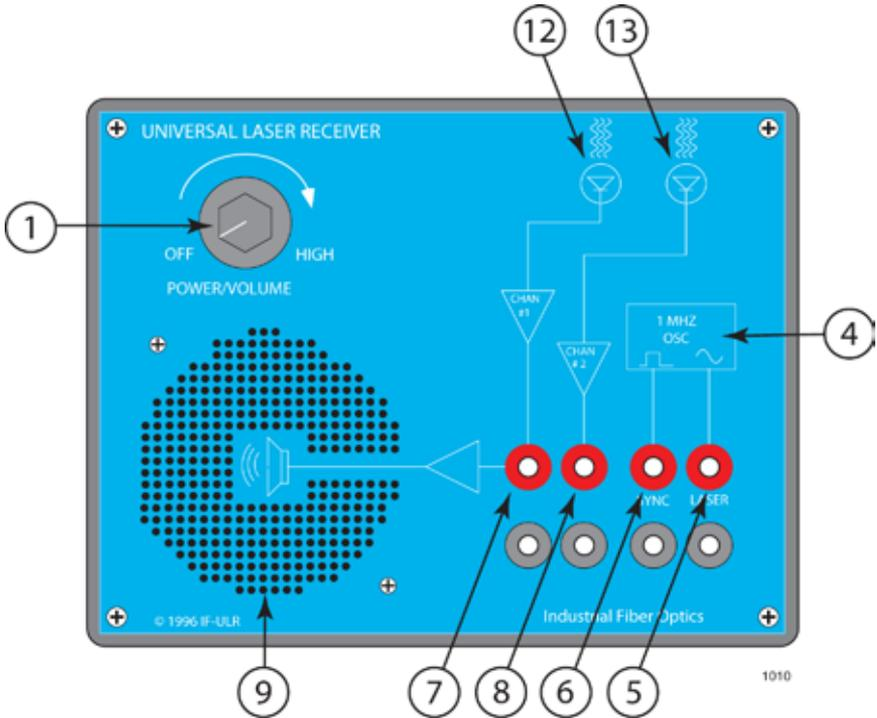
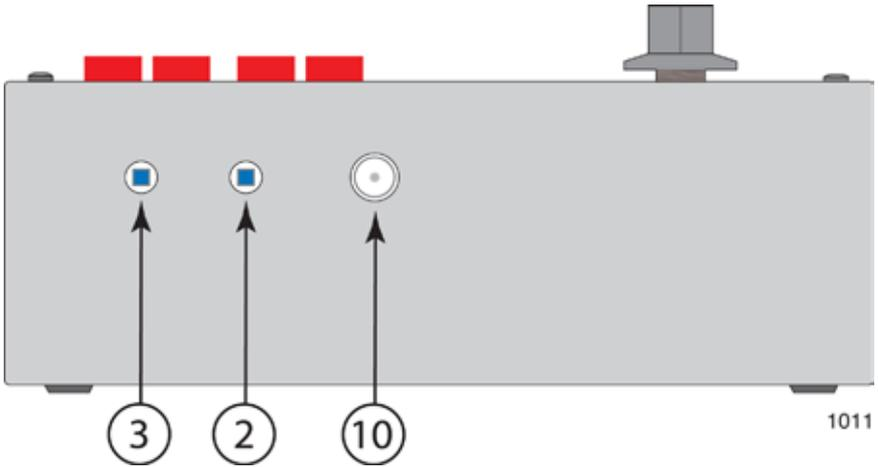

Figure 1. Top panel of the Universal Laser Receiver.
Figure 2. Front view of the Universal Laser Receiver.
A diagram of the Universal Laser Receiver's top panel appears in Figure 1. Following are descriptions of each item identified in the figure.
The POWER/VOLUME switch is located in the upper left portion of the panel. Turning this switch clockwise from the off position, shown in Figure 1, connects power from the power jack to the receiver's internal electronics.
The Universal Laser Receiver obtains electrical power through a standard 2.1 mm DC power jack shown in Figure 2. (The POWER/VOLUME switch controls the power from the power jack to the receiver's electronic circuitry.)
On the top panel of the laser receiver (See Figure 1) is the schematic representation of Channel #1's photodetector — a pin photodiode (a circle with a triangle inside of it). The pin photodiode is both a durable and sensitive device that is responsive to wavelengths of light ranging from 400 to 1100 nm. It is located inside the receiver chassis, but is visible from the front of the laser receiver through one of the access holes, as can be seen in Figure 2.
14. Locate the items labeled Photodetector #1, Photodetector #2 and the power jack shown in Figure 2 of this manual on the laser receiver.
15. Plug the 110 (220) VAC-to-12 VDC power adapter (provided with the receiver) into a 110 (220) VAC wall outlet.
16. Plug the 2.1 mm plug on the end of the power adapter cord into the hole on the laser receiver designated for the power jack as shown in Figure 2.
- Is the 110 (220) VAC-to-VDC power adapter plugged into a wall outlet? Is there power to the wall outlet?
- Is the laser beam positioned properly so the beam is illuminating the center of Photodetector #1? (See Figure 2.)